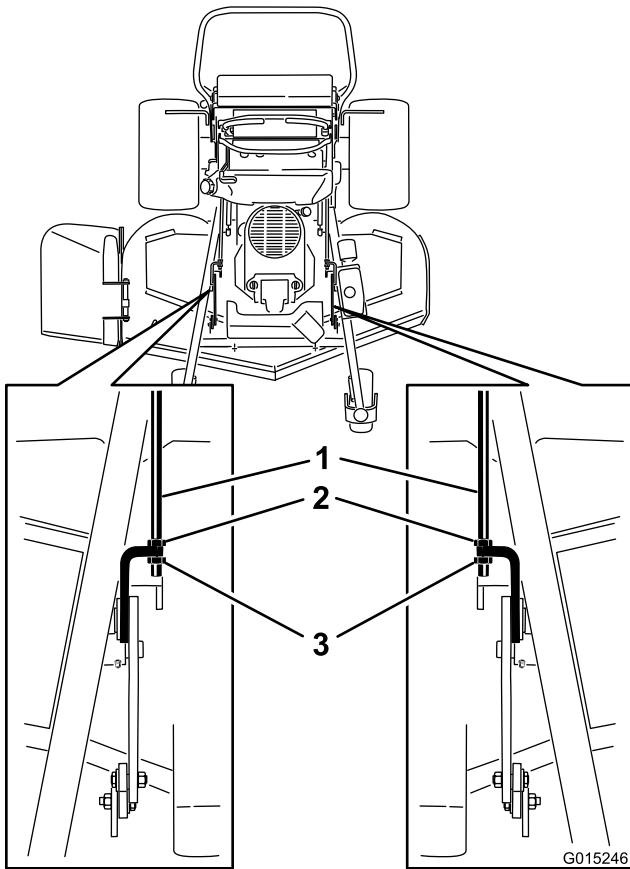

**Figure 85**
1. Place 3 pieces of 2x4 wood under the mower deck as shown in Figure 85. Stand the 2x4's on the 4 inch part.